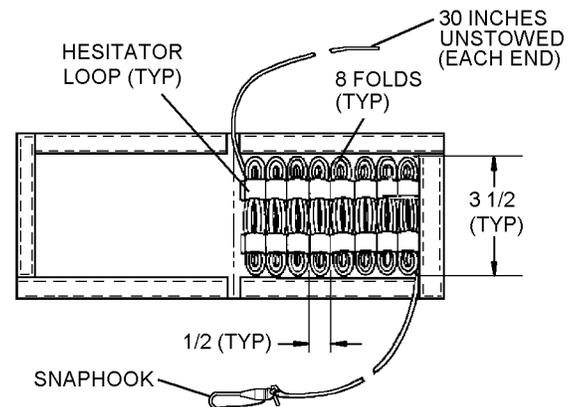

Figure 9-19. Stowed Painter Line
15. Stow painter line in painter line pouch by forming eight 3 1/2-inch bights in line; then inserting each bight in eight hesitator loops provided. Leave 30 inches of unstowed painter line at each end of pouch. See figure 9-19. Close pouch; then secure with hook and pile tape provided.
16. Attach snaphook to end of unstowed painter line extending from open end of pouch with a bowline knot. See figure 9-19.